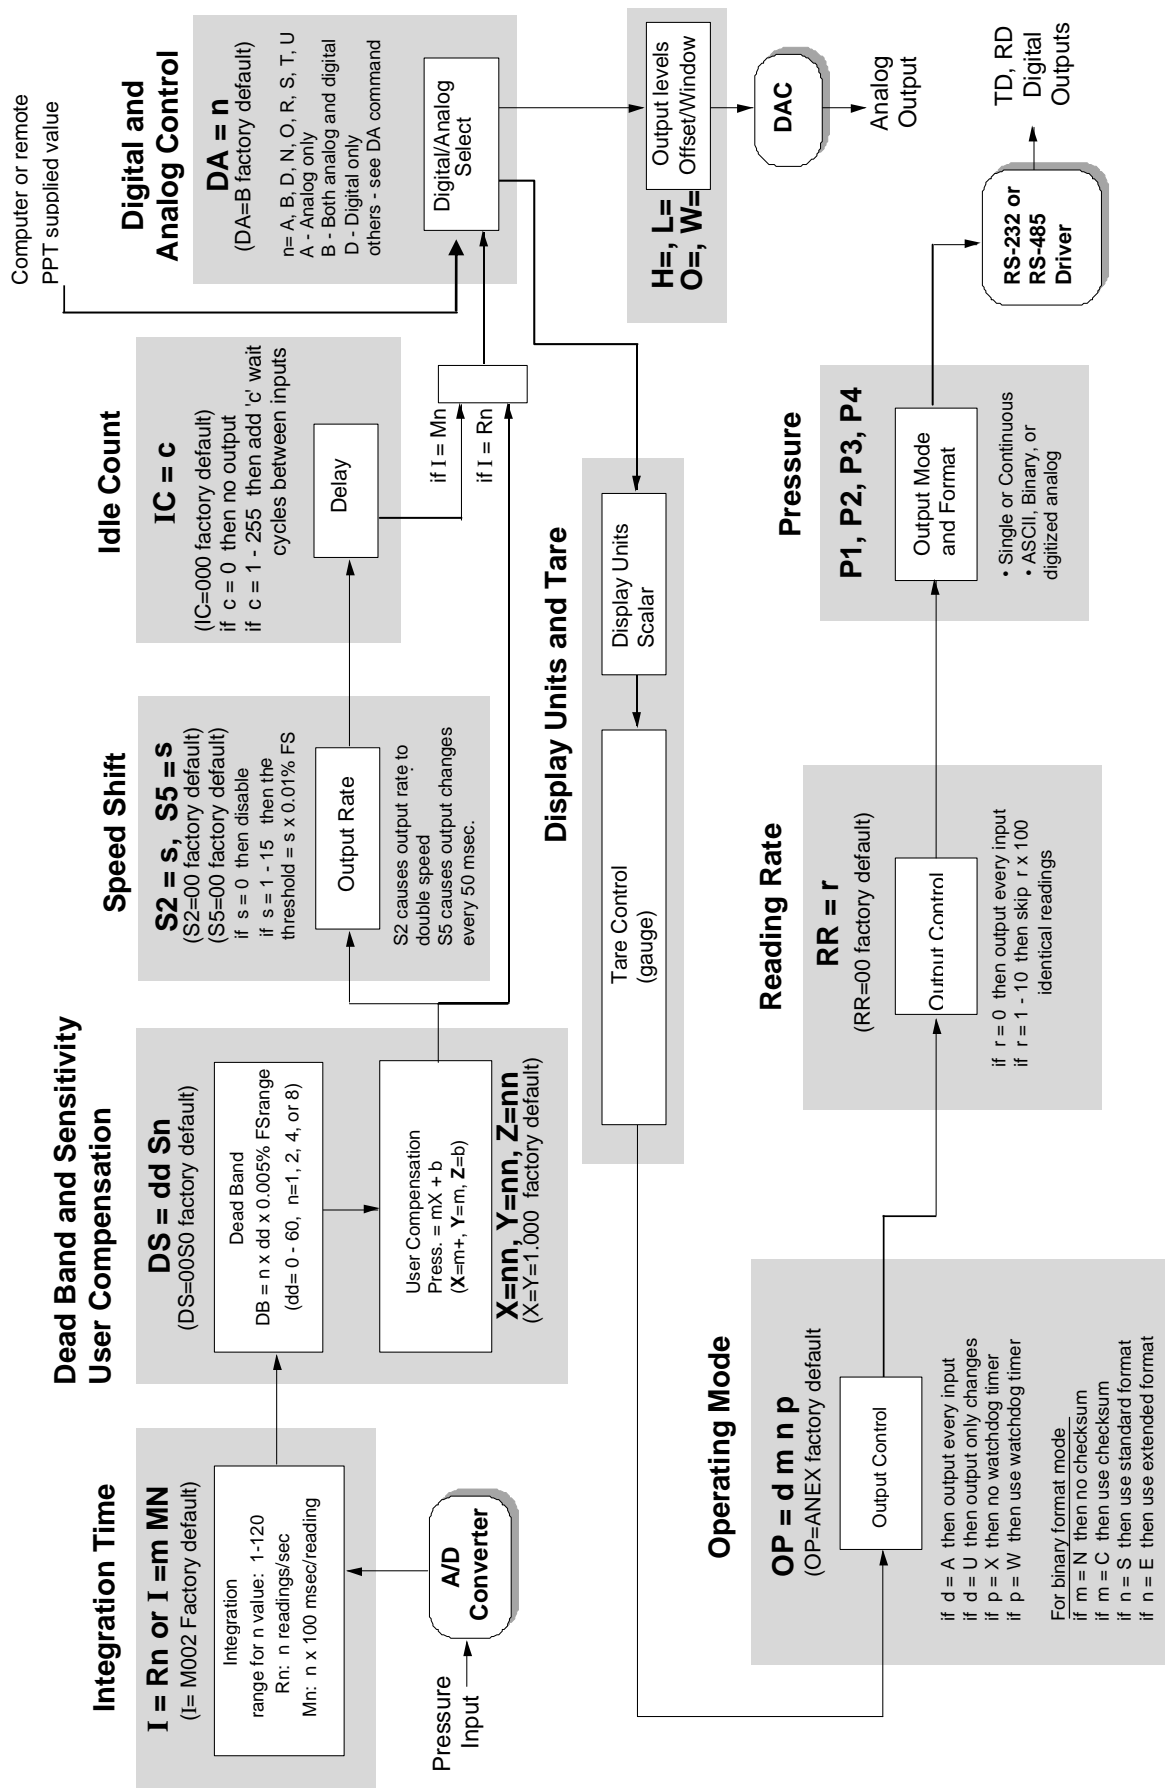

Figure 4.2—Pressure Reading Control
The PPT commands allow considerable flexibility in tailoring pressure acquisition times, sample windows, thresholds, and output rates. These are controlled by 7 commands: Deadband and Sensitivity (DS), Integration (I=), Speed shift (S2), Speed shift at 50msec intervals (S5), Idle Count (IC), Reading Rate (RR), and OPERating mode (OP). Figure 4.2 illustrates how the user may control these attributes in three ways: